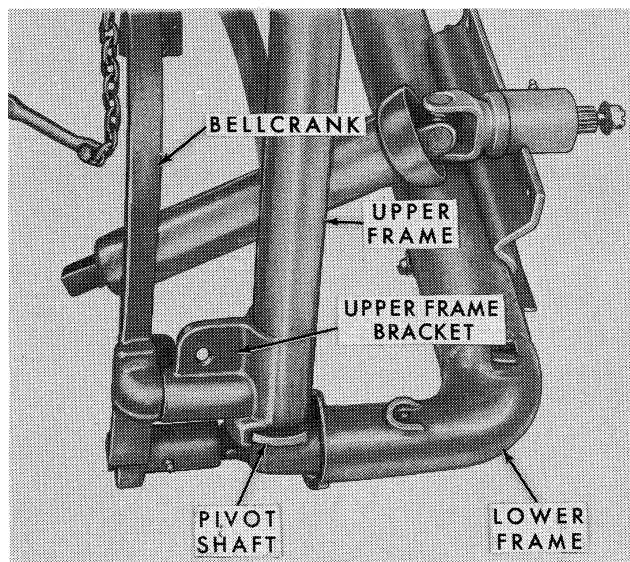

Figure 30
1. Insert the pivot shaft, Figure 30, in the left end of the lower frame, and rotate until the inner flange on the pivot shaft engages in the outer flange on the lower frame, as shown.
2. Position the left leg of the upper frame on the pivot shaft. Secure by rotating the upper frame until the inner flange on the pivot shaft engages in the outer flange of the upper frame, as shown in Figure 30.
3. Insert the shaft on the bellcrank into the upper frame bracket, as shown in Figure 30. Secure by rotating the bellcrank until the inner flange on the upper frame bracket engages in the outer flange on the bellcrank.